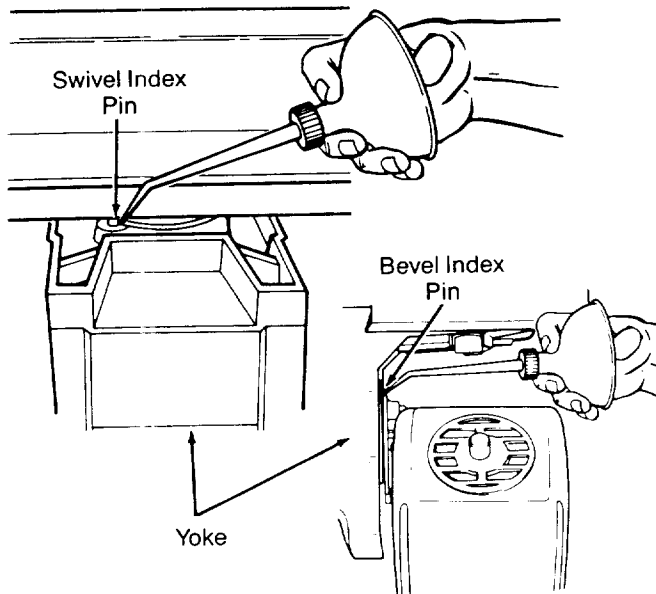

Fig. 122 - Swivel and Bevel Index Pins
- Apply a few drops of oil along the *swivel index pin* and the *bevel index pin* only if the pins have a tendency to stick. Swivel to in-rip or out-rip for easy access to the *swivel index pin*. Bevel to 45° and *bevel index pin* can be easily accessed behind the *yoke* as illustrated. (Figure 122)